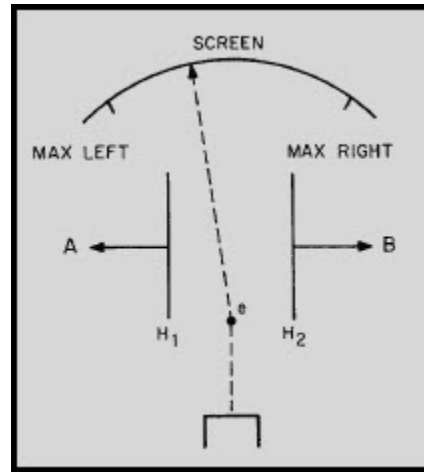

Figure 2B Deflection in a CRT
- 2-42. In figure 2B, what potentials should be applied to points A and B to make electron (e) deflect in the direction as shown?